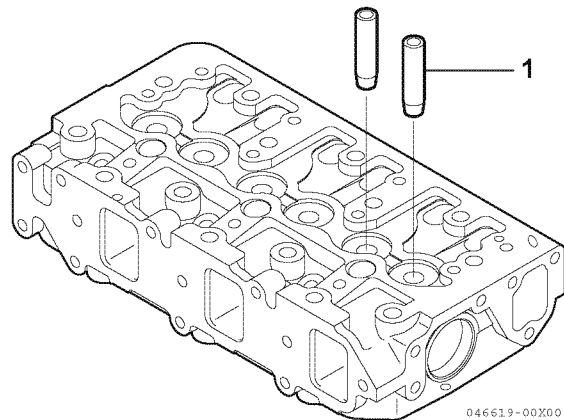

Figure 6-25
2. Immediately after removing the valve guides from the freezer, insert the valve guides (1, **Figure 6-25**) in their proper positions.